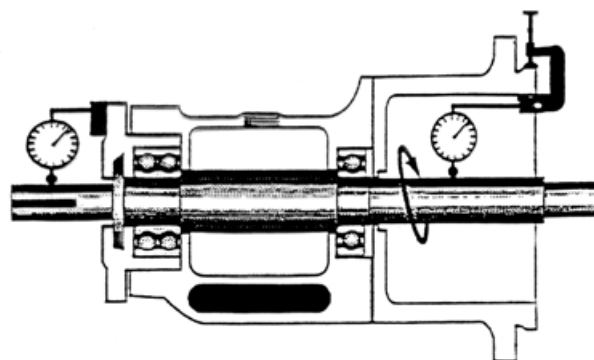

Figure 43 - Using dial indicators to check shaft runout
2. Check total indicated run out, it should not be more than 0.003" (0.08mm) (Figure 43).